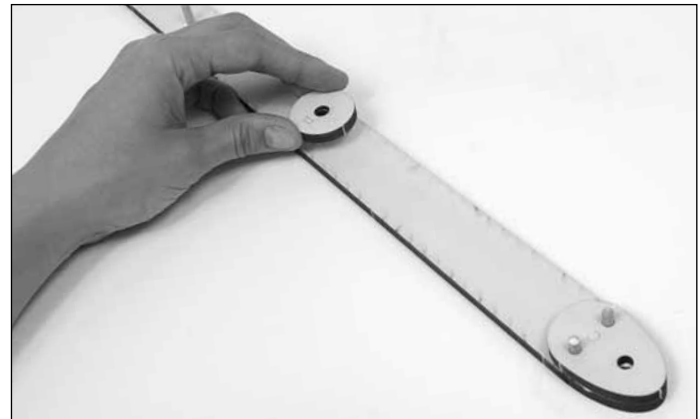

Figure 5
4. On top of the dowels at the wide end of Part B, face glue Part C so its shape lines up with the shape of the end of Part B. Over the brass tubing, face glue Part D to Part B (Figure 5).